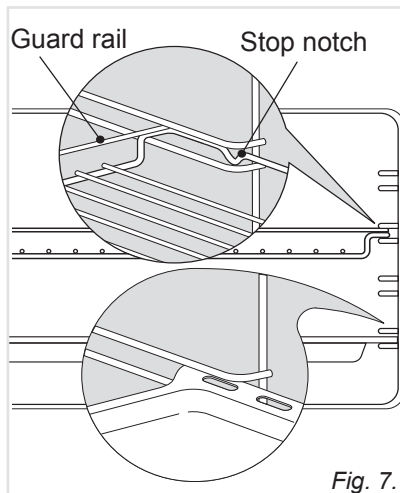

Fig. 7.7
- Slide the rack into the runners (Fig. 7.7).